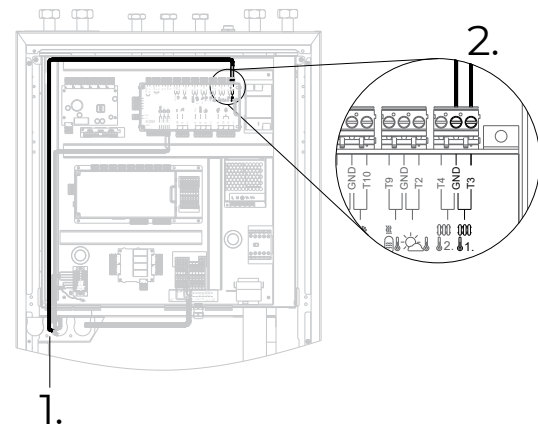

Figure 21: Connecting the cable of the mixing valve of heating/cooling loop 1
1. Thread the sensor cable through the cable channel on the left side to the terminals (Figure 21).